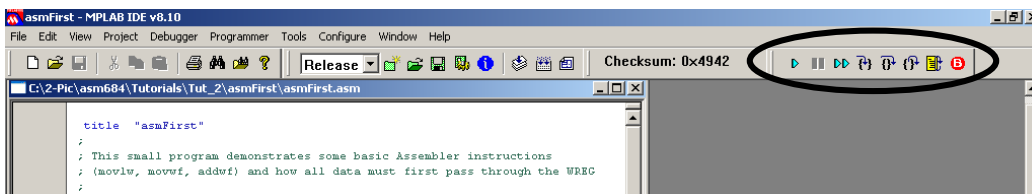

Fig 2.5: Simulator toolbar
- a) Place your mouse cursor over each of the symbols on the simulator toolbar until you come across *Reset*. Click it (Fig 2.5).